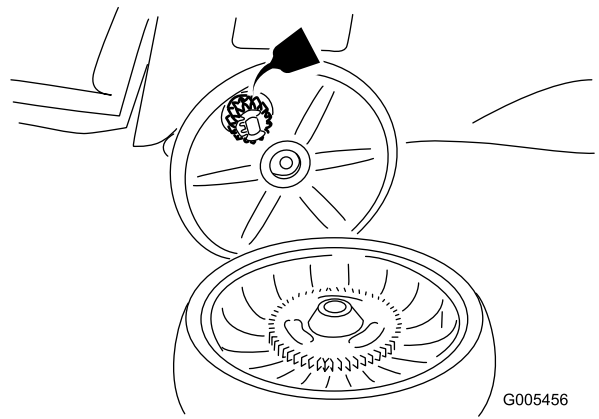

Figure 26
2. Apply a lubricating oil to the gear as shown in Figure 26.